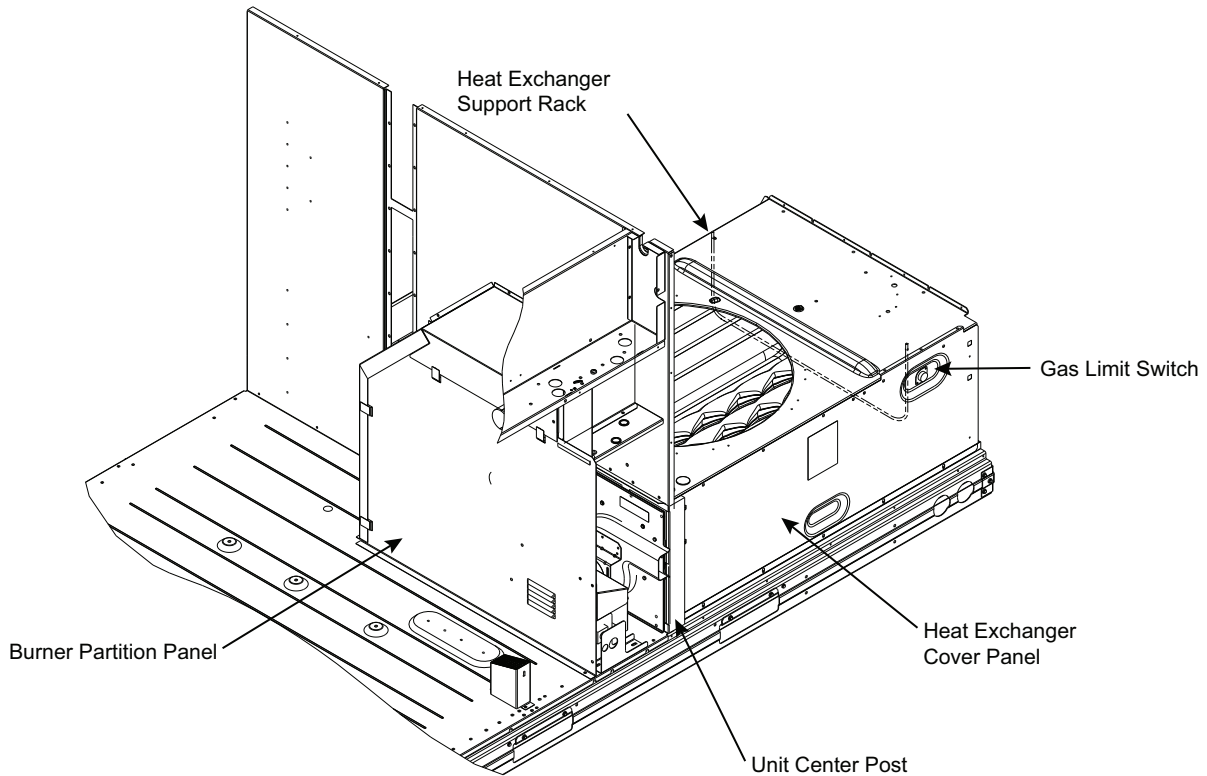

Fig. 58 — Heat Exchanger Access - Internal Panels, Center Post and HX Rack Locations
1. Remove the screw at the base of the burner partition panel (see Fig. 58) and slide out the panel.
5. Remove the screw at the base of the burner partition panel (see Fig. 58) and slide out the panel.
3. Remove the unit center post (see Fig. 58).
Remove the indoor blower access panel. Limit switch is located on the heat exchanger cover panel. See Fig. 58.